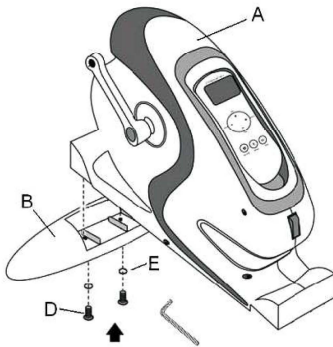
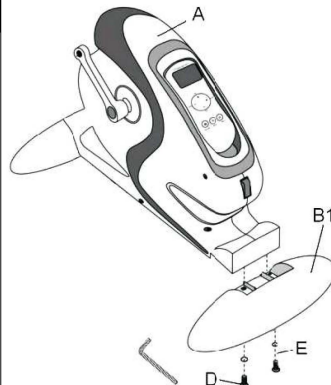

Fig. 2
Fig. 3
1. Install the stabiliser bar (B) with the main body (A) as shown in Fig. 2.
2. Keep the screw (D) and grower washer (E) firmly and drive them slowly with the hexagonal key (F).
3. Install the rear stabiliser bar (B1) marked with the main body (A) as shown in Fig. 3.